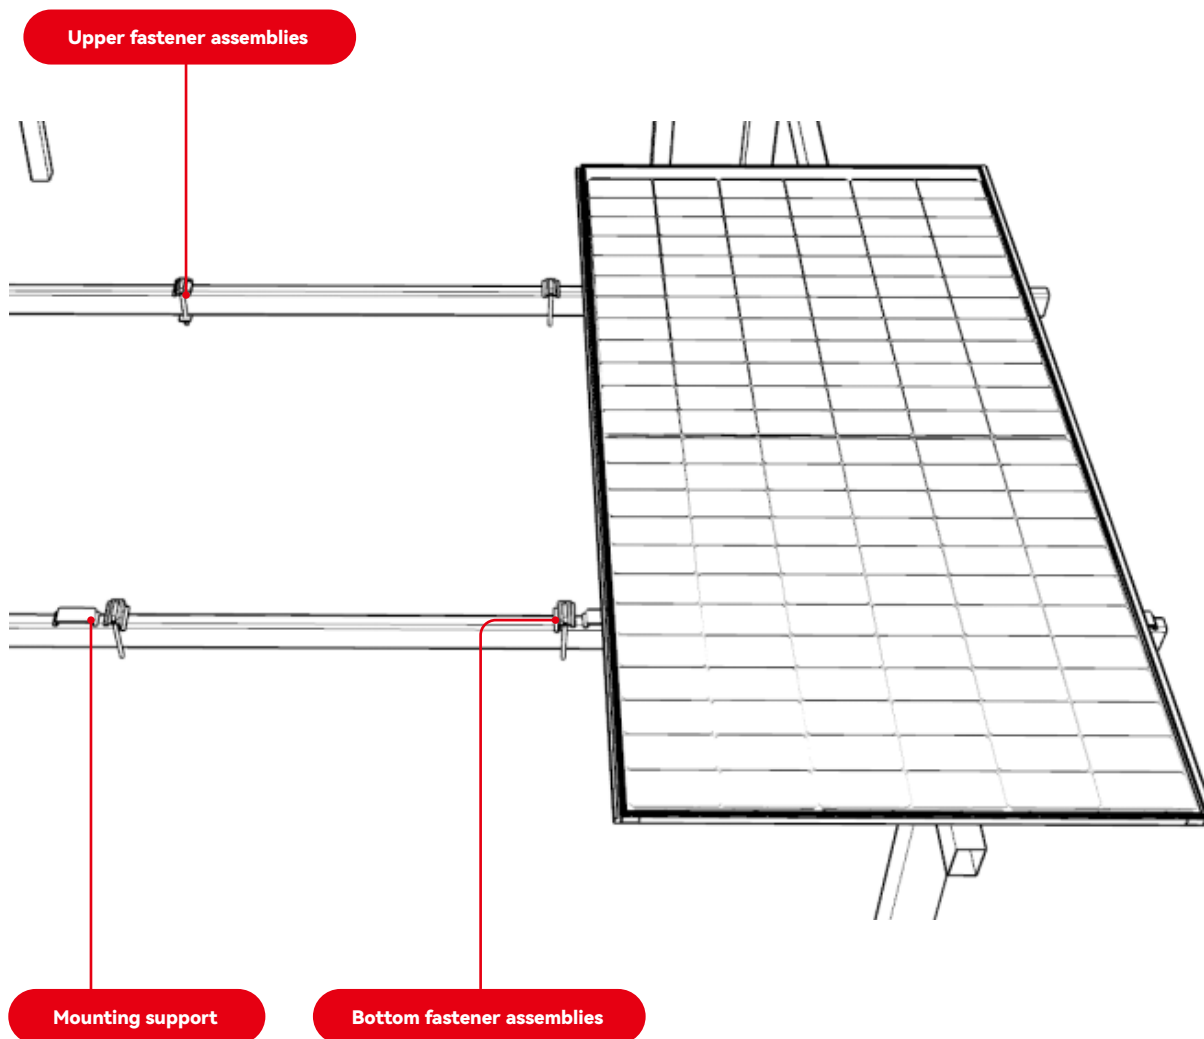

FIGURE 15
- For the installation of the second product, first place upper fastener assemblies and mounting support in position (as shown in Figure 15). The distance between the two upper fastener assemblies is still 1147mm, and the two bottom fastener assemblies are still located between the two mounting supports.